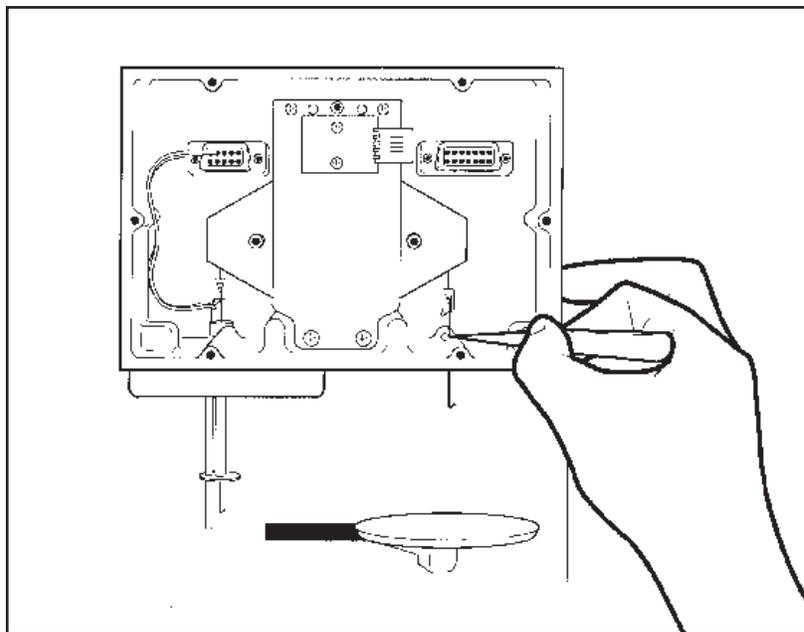

Figure 2.15
6. Thread the hang-down wire up through the thermocouple tube into the balance chamber, and hook the top of the wire over the top of the tube (see Fig. 2.15).
11. Using brass tweezers, insert the tare hang-down wire into the balance chamber on the tare side and down through the hole above the tare tube connection, taking care not to bend the wire (Figure 2.15 on next page).